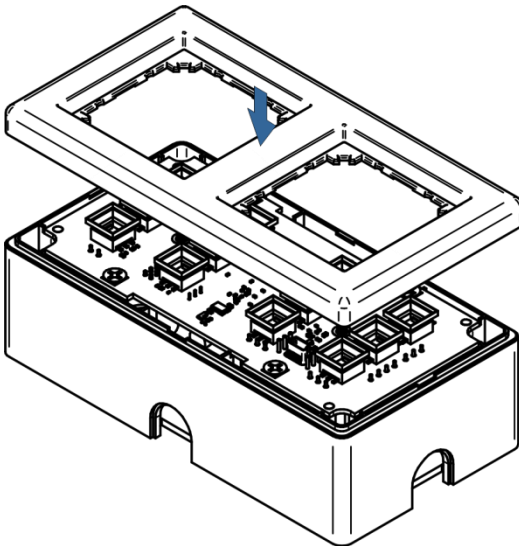

Figure 8: Placing the Frame
4. Mount the frame over the device (see Figure 8).